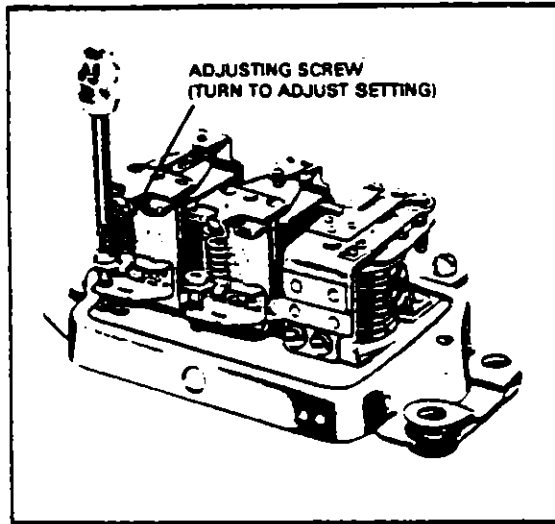

FIGURE 9-6. ADJUSTING VOLTAGE REGULATOR SETTING
h. To adjust voltage setting turn adjusting screw (Figure 9-6). Turn clockwise to increase setting and counterwise to decrease voltage setting.
- e. Adjust in same manner as described for the voltage regulator (Figure 9-6).
e. Adjust in same manner as described for the voltage regulator (Figure 9-6).